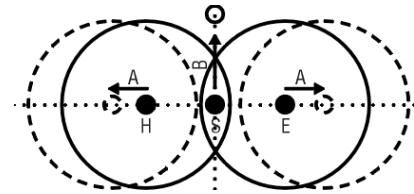

Figure 5: Voltage funnel
- B: position the earth rod for the probe to one point of the line outside the voltage funnel, as shown in figure 5, and repeat the measurement.